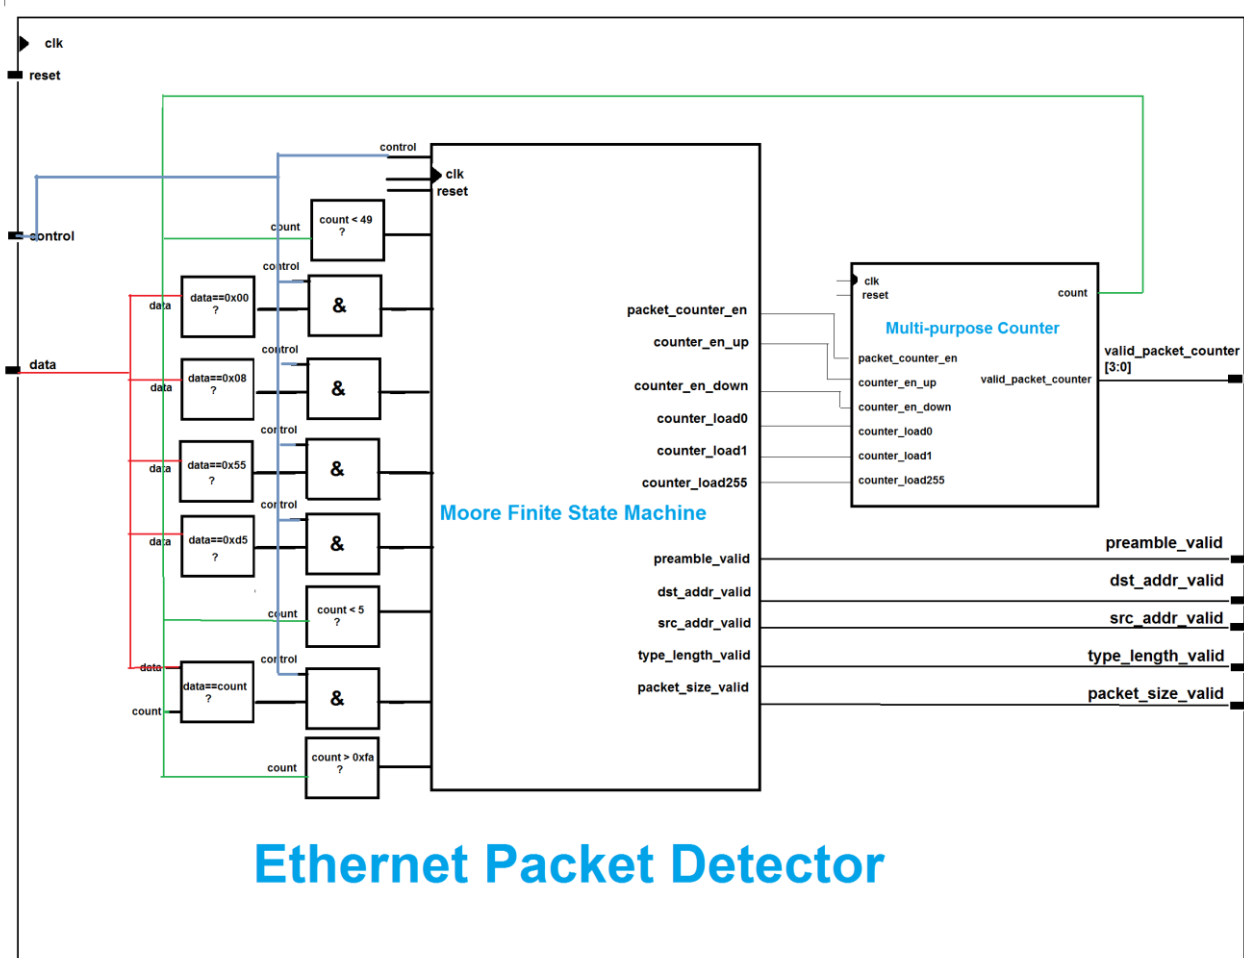

Figure 6: Detector's Hardware Implementation
4- Type/Length: A valid type/length is 2 bytes with the values and order of transmission/reception shown in Figure 6. After a valid type/length is detected, type_length_valid output must be asserted for the duration of one clock cycle.
- The Detector's Block Diagram is shown in Figure 6: